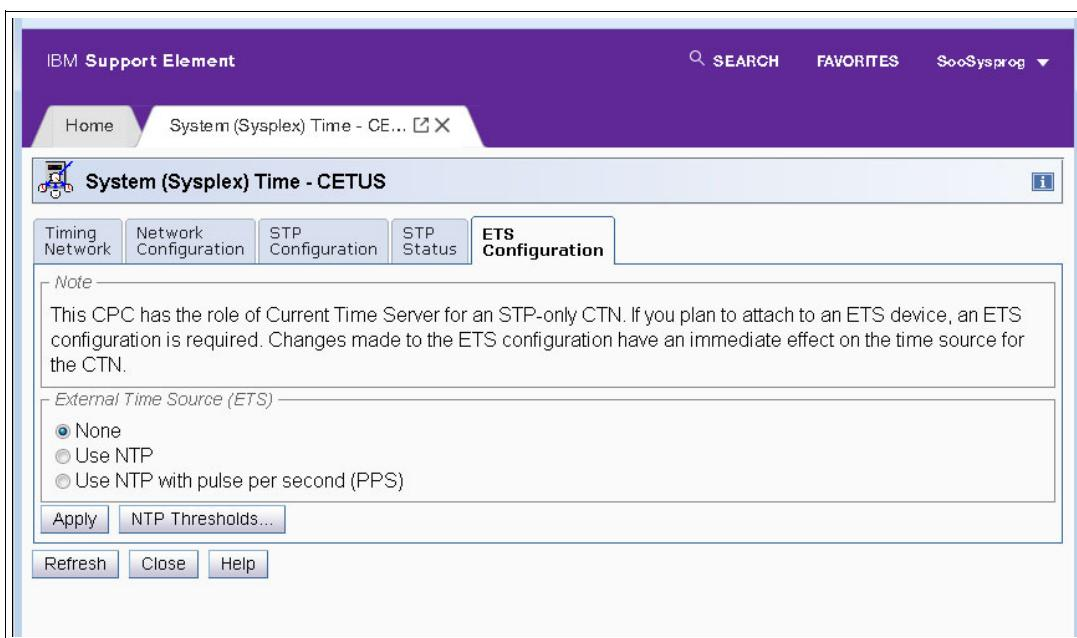

Figure 5-39 System (Sysplex) Time: ETS Configuration
10. Click the ETS Configuration tab to check whether there are any External Time Source (ETS) definitions (Figure 5-39).
Figure 5-39 shows **None** has been selected for any ETS.